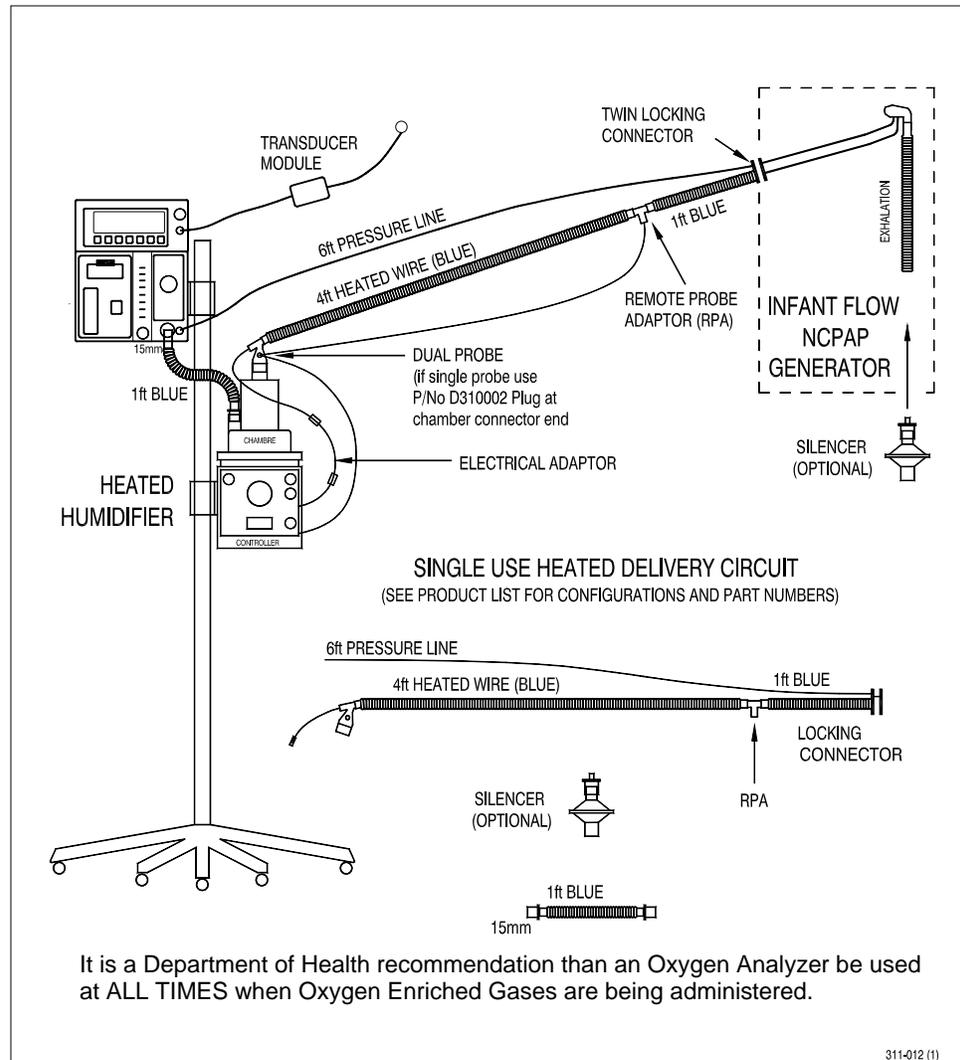

Figure 2 - Set Up Infant Flow Advance System
- 4 Connect the patient circuit and Infant Flow Generator as shown in Figure 2.